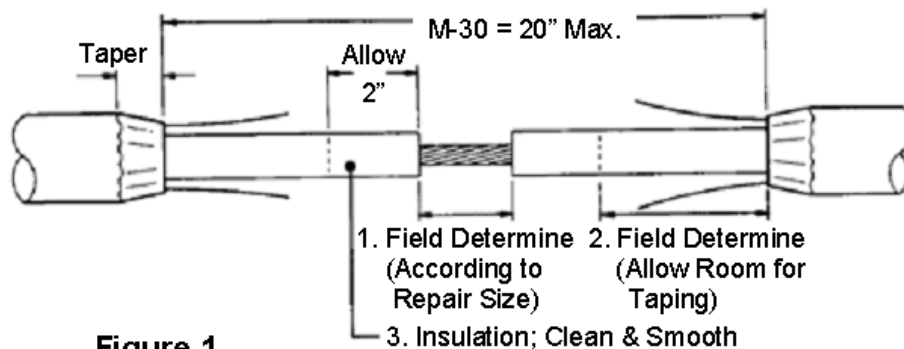

Figure 1
2. Remove entire cable jacket from repair area, for a length not exceeding that shown in Figure 1.
1. **600/2000 Volt Portable Cable (Non-Shielded) (Figures 1 & 2)**